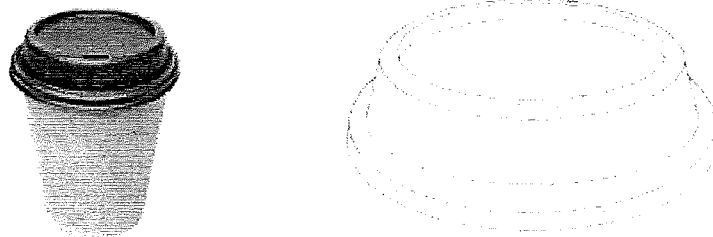

Figure 1: A coffee cup lid
6. (a). Thermoforming is a process where a plastic sheet is heated to a pliable forming temperature, formed to a specific shape in a mold, and trimmed to create a usable product. With the aid of suitable flow diagram, describe the process of thermoforming the coffee cup lid as shown in Figure 1.